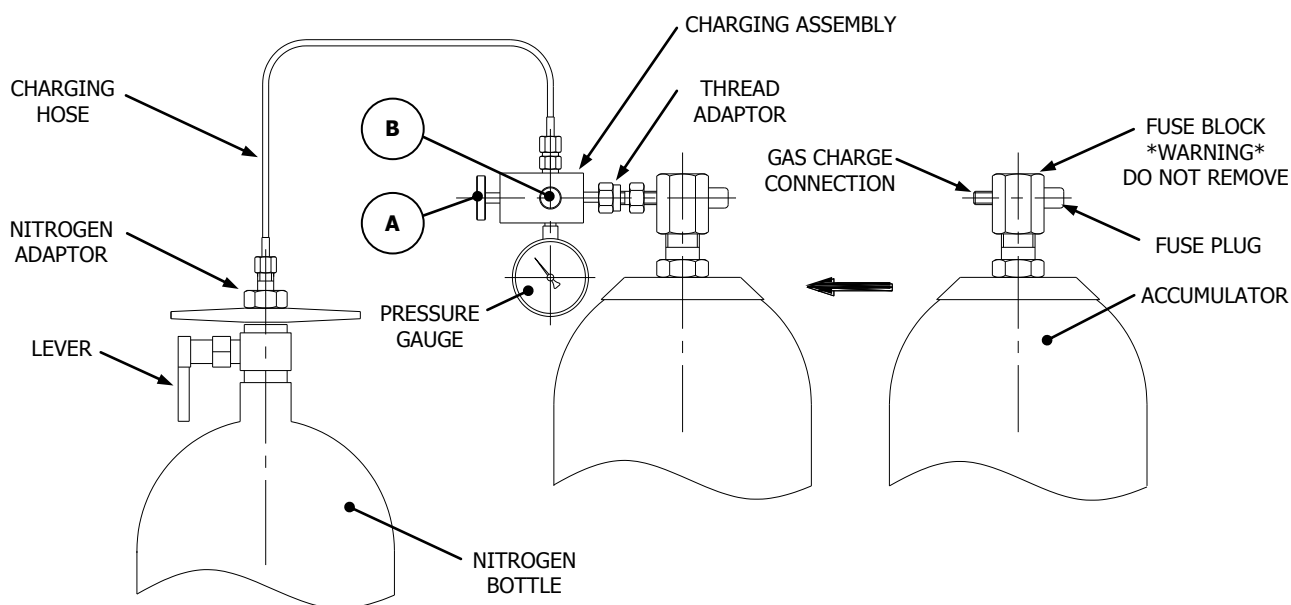

Figure 4.17 Accumulator Pre-Charge Setup
- Remove the sealing cap from the gas charge connection. Refer to figure 4.17: Accumulator Pre-Charge Setup.
- Before fitting the charging assembly ensure the hand wheel 'A' is fully retracted (counter-clockwise), bleed screw 'B' is closed and pressure gauge c/w copper sealing washer is fitted. **Note: Do not fit charging hose.** Refer to figure 4.17: Accumulator Pre-Charge Setup.